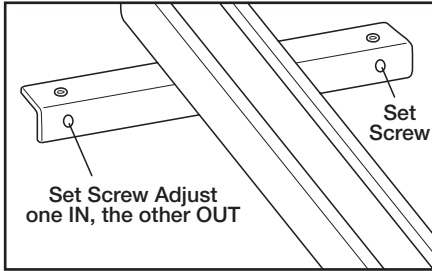

Figure 7
4. Should adjustment for clamp pressure or parallelism be required. Remove the fence and turn over. Figure 7.
5. Adjust one or both screws shown in Figure 7 until clamp pressure and parallelism with miter slot is satisfactory.